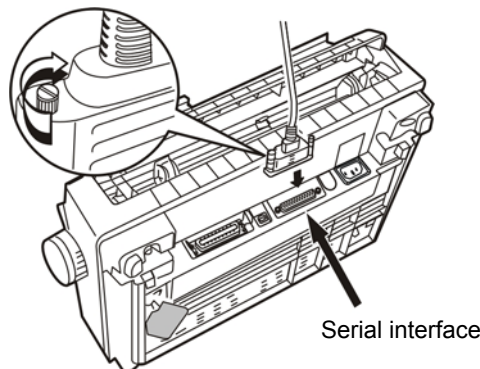

Figure 1-27 Connect to serial interface
1. Turn off both the computer and the printer. Plug the serial cable connector securely into the printer's serial interface. Tighten the screws on either side of the connector. (As shown in figure1-27)